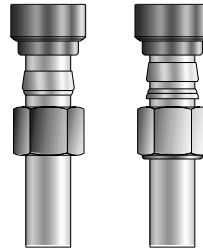
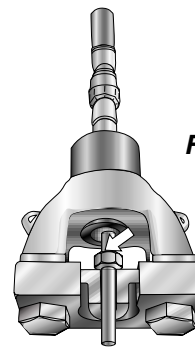

Figure 1
Figure 3
1. Assemble CPI™/A-LOK® nut, CPI™/A-LOK® Ferrule(s) and body die onto tubing as shown in Figure 1. Be sure that the tapered end of the Ferrule(s) point toward the body die.
3. Insert Tube Assembly, (Figure 1) into Nut Support as shown in Figure 3.
1. Assemble CPI™ nut, CPI™ Ferrule and body die onto tubing as shown in figure 1. Be sure that the tapered end of the Ferrule points toward the body die.